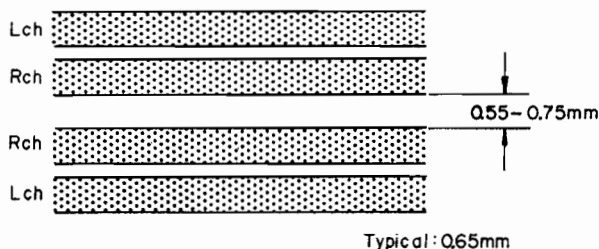

Fig. 5.14
- Immerse the recorded tape in a magnetized developing solution. In turn, check to insure that the recording head tracks across the center are separated with a distance of 0.55 to 0.75 mm (typically 0.65 mm) as illustrated in Fig. 5.14.